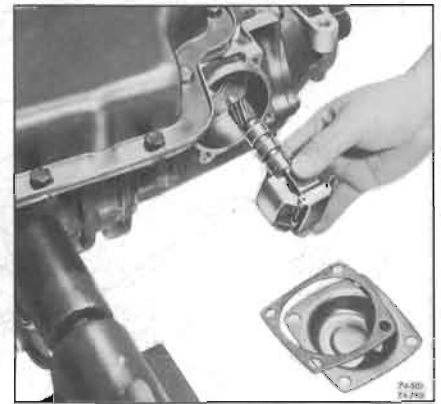

Figure 74-507
2. Withdraw governor assembly from case. See Figure 74-507.